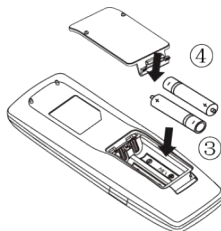

Fig.2
- (3). Place two 7# (AAA 1.5V) dry batteries, and make sure the position of "+" polar and "-" polar is correct (as shown in Fig 2 ③).
- (4). Reinstall the cover (as shown in Fig 2④).